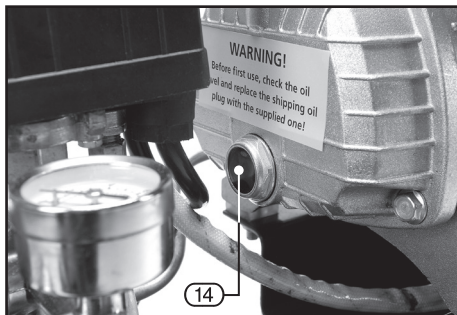

FIG.9
10.3 GENERAL MAINTENANCE AND SERVICE INTERVALS – FIGS. 9 – 11